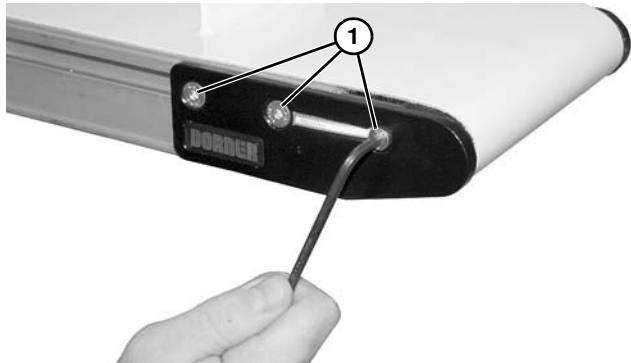

Figure 71
3. Install the head plate over the drive pulley and attach the head plate to the conveyor frame with three screws (**Figure 71, item 1**). Tighten screws to 60 in-lb (7 Nm).